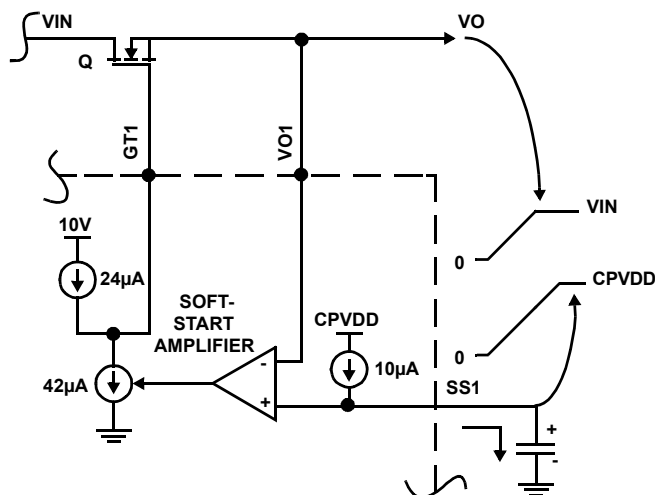

FIGURE 15. SOFT-START OPERATION
The output voltages are monitored through the Vo pins and slew up at a rate determined by the capacitors on the Soft-start (SS) pin, as illustrated in Figure 15. 24µA of gate charge current is available. The soft-start amplifier controls the output voltage by robbing some of the gate charge current thus slowing down the MOSFET enhancement. When the load voltage reaches its set level, as sensed by its respective UV pin through an external resistor divider, the Power Good ($\overline{\text{PG}}$) output goes active.
I_{INRUSH} is the sum of the DC steady-state load current and the load capacitance charging current. If the DC steady-state load remains disabled until after the soft-start period expires (PGX could be used as a load enable signal, for example), then only the capacitor charging current should be used as I_{INRUSH} . The C_{SS} value should always be more than $(1/2.4)$ of that of C_{iss} of the MOSFET to ensure proper soft-start operation. This is because the C_{iss} is charged from $24\mu A$ current source, whereas the C_{SS} gets charged from a $10\mu A$ current source (Figure 15). In order to make sure both V_{SS} and V_O track during the soft-start, this condition is necessary.